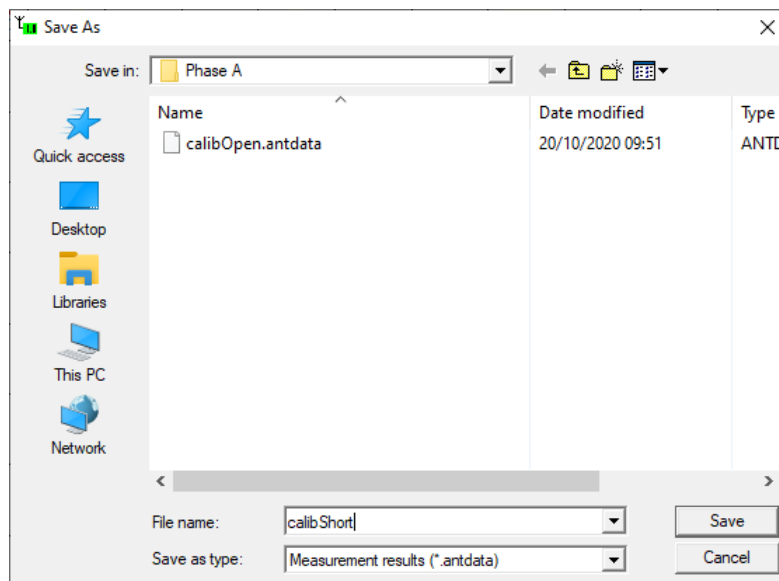

Figure 9-37: Save As “calibShort”
4. Select **File > Save As** and type the filename `calibShort` as shown in Figure 9-37.